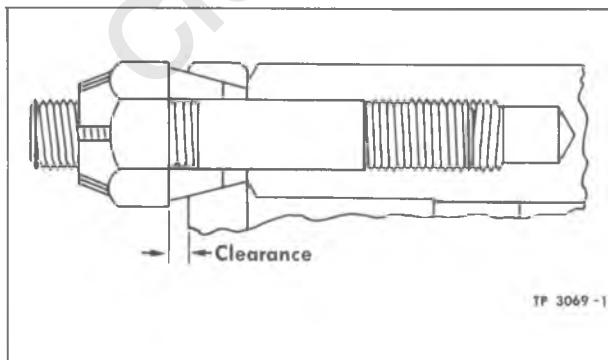

Figure 6—Clearance Between Axle Shaft Flange and Stud Nut
2. The studs must be straight and dowels of correct taper must be used. There should always be a slight clearance between nuts and driving flange when nuts are drawn up (fig. 6). No clearance at this point indicates excessive wear at studs, dowels, or holes in flange. Replacement of worn parts is the only remedy.